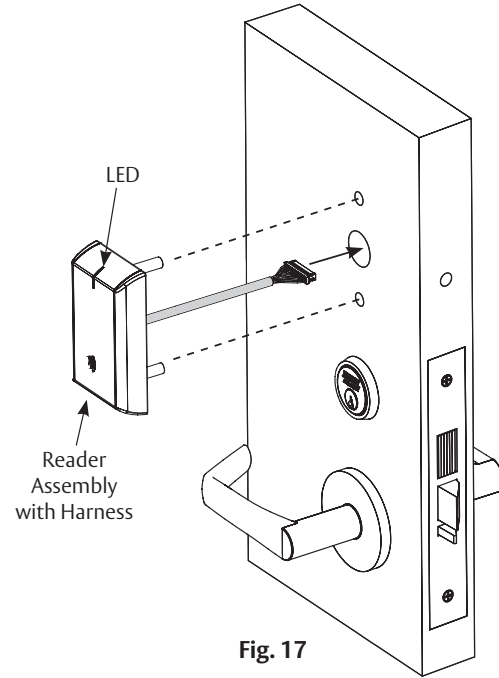

Fig. 17
- a. Orient reader so LED lens is at top. (Figure 17)